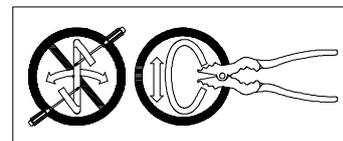

Fig.3
CONNECTING THE WIRES (Fig.3)
8. At this point, connect the electrical wires as shown in Fig.3 making sure all wire nuts are secured. You may have to wrap the connections with electrical tape. If your outlet has a ground wire (green or bare copper), connect fixture's ground wire to it. Otherwise connect fixture's ground wire directly to the junction box.